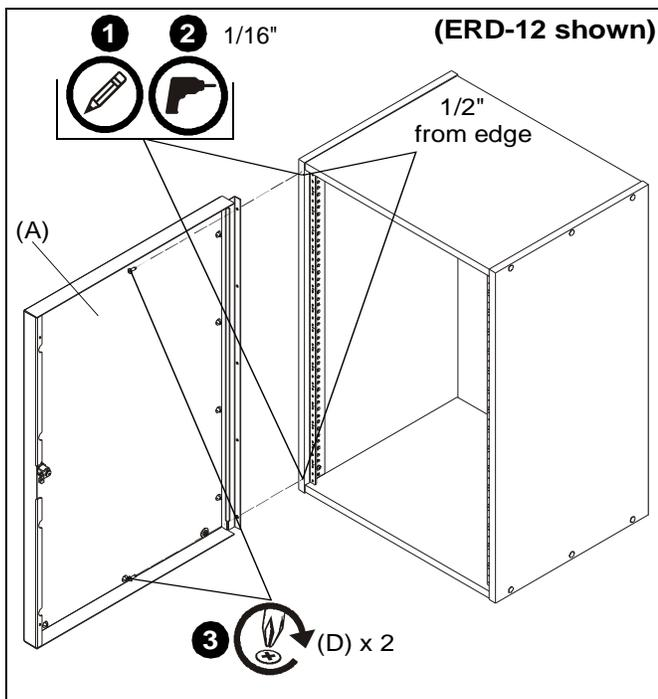

Figure 1
1. Measure and mark 1" from the top and bottom of the edge on what will be the hinge side of the door. (See Figure 1)
2. Drill a 1/16" hole, 1/2" in depth, at each of these marked locations. (See Figure 1)
3. Use two #10 x 5/8" Phillips pan wood screws (D) to attach door (A) at drilled hole locations. (See Figure 1)